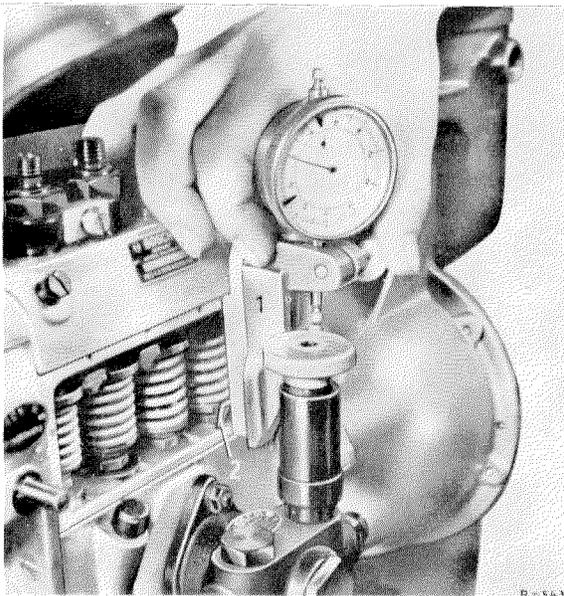

Figure 00-6/16
3. Put stroke advance tester (1) to the pump in such a way that the measuring pin (2) comes to rest on the push rod of the first pump cylinder (see Figure 00-6/16). The dial gauge must be pre-loaded approx. 0.5 mm at the same time. Then turn the scale of the dial gauge so that the needle points to zero.
5. In this position of the injection pump the feed begin marking and/or the corresponding degree on the pulley (see Figure 00-6/1) or on the flywheel must coincide with the timing needle (see Figure 00-6/6) or the hexagon screw must be situated between the two lines marked with "FB" on the flywheel (see 00-6/7).
1. Set the piston of the 1st cylinder to the ignition dead center (see Job No. 00-3, item 3).
2. Check this position on the counterweight at the front of the crankshaft. The adjusting pointer (2) must point approximately to the TDC mark on the counterweight (1) (see Figure 00-6/17).